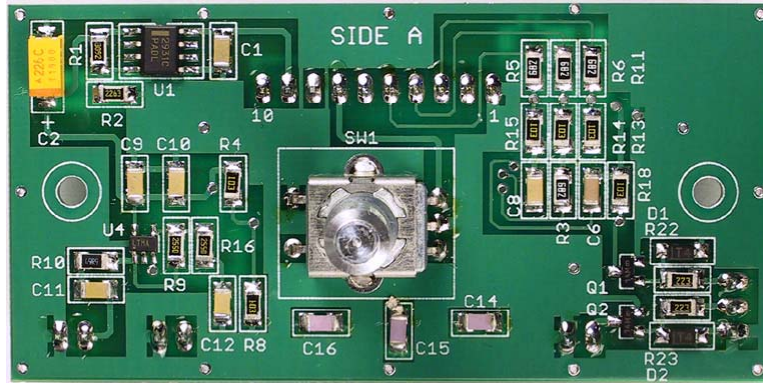

Figure 19. Completed Side A
- This completes the basic board assembly. Carefully inspect the solder joints of the resistors, capacitors, transistors and diodes. They should be smooth and shiny. Retouch as necessary. Now examine the IC solder joints. The lead pitch is small and there is plenty of opportunity for solder bridges, especially at U5. Make sure there are no solder bridges across the pins or pads. Side A of the board should closely resemble **Figure 19**. Side B should look like **Figure 20**.